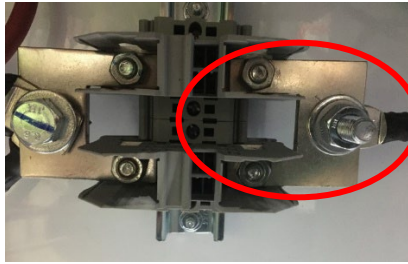

Figure 16
Connect the two (2) black (-) wires to the negative terminals as shown in figure 16. Tighten to 18 ft-lbs.